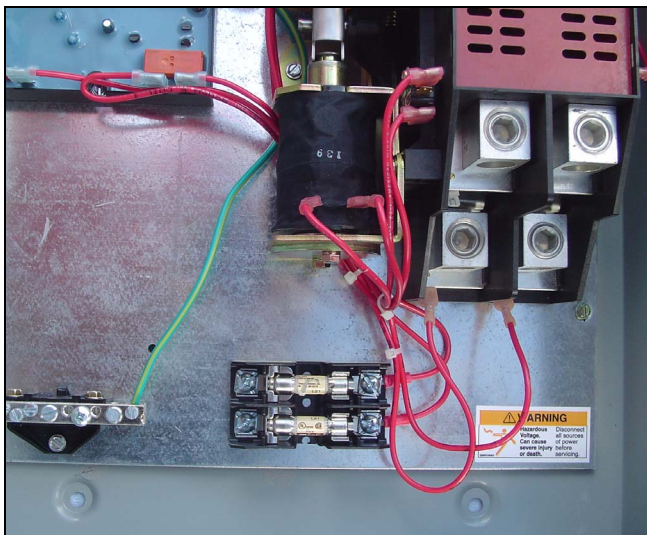

Figure 15. Utility Sensing Fuse Block Location.
Step 2: The utility sensing fuse block is located at the bottom center of the power panel and is used to supply 240 Vac to the generator (See Figure 15). See Section 4.7 for more detailed information on connecting these inputs.
The generator’s 240 Vac utility sensing fuse block is located at the bottom center of the power panel of the ATS (Figure 15).